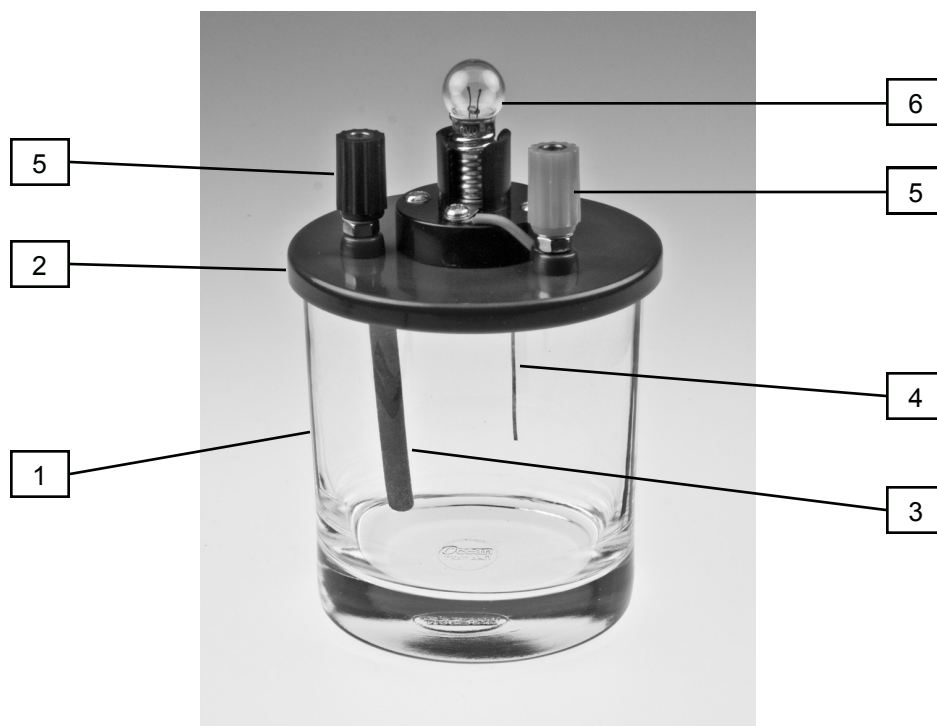

Figure 1
The Conductivity of Solutions Apparatus (CSA001) allows students to investigate the electrical conductivity of various aqueous solutions. It consists of a glass jar (1, *Figure 1*) with an electrically insulating lid (2) onto which two electrodes are mounted, a carbon rod (3) and a copper wire (4). The electrodes are connected to two binding posts (5). A small lamp (6) is connected in series into the lead to the copper electrode as an indicator that a current is flowing.